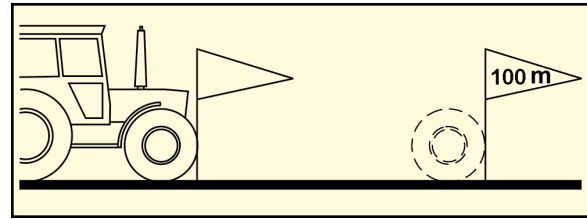

Fig. 25
- On the field, measure a calibration distance of exactly 100 m. Mark the start and end point of the calibration distance (Fig. 25).